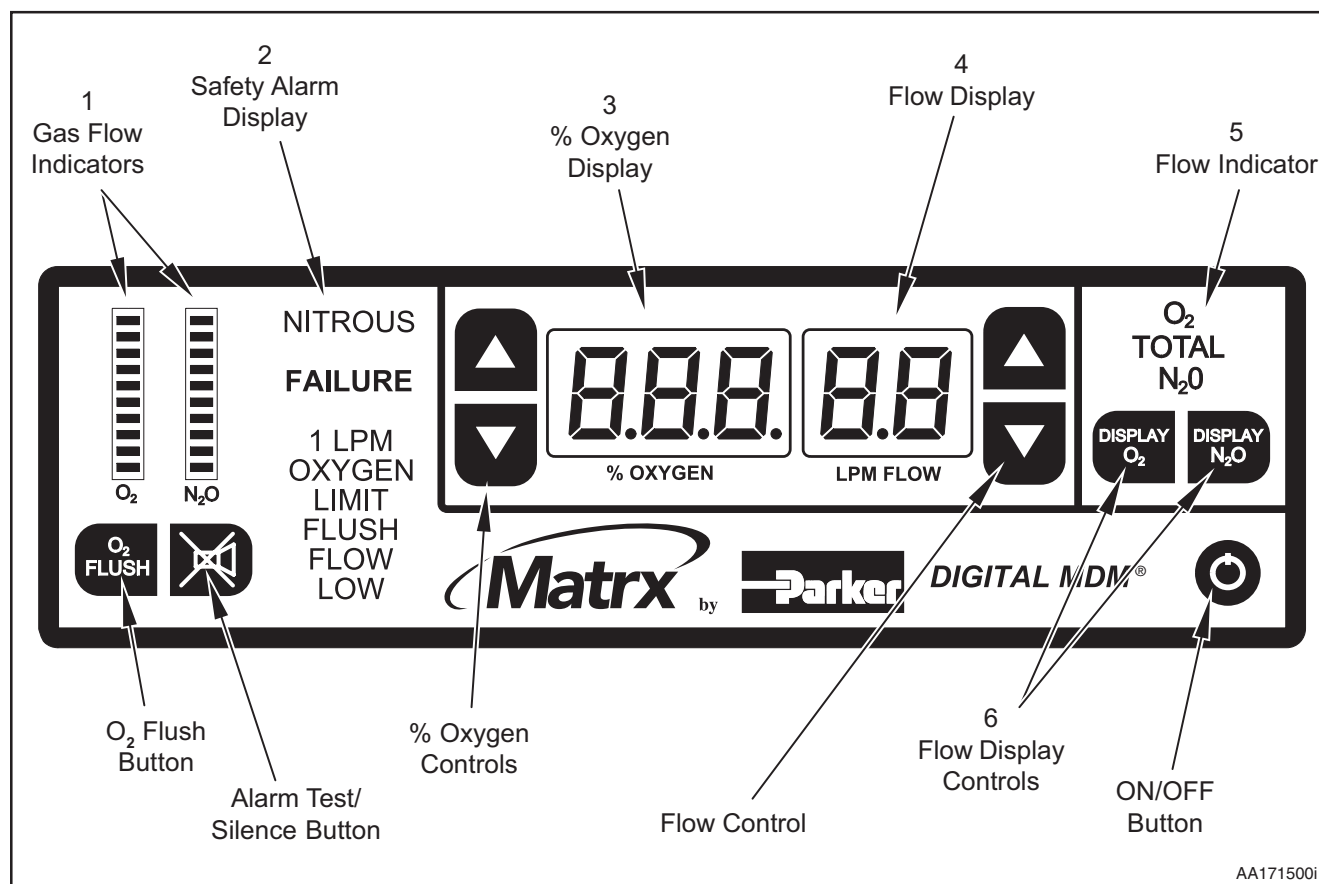

Figure 2. Matrix DIGITAL MDM® Mixer Front Panel (figure shows all LEDs illuminated)
In the following, the location numbers refer to Figure 2.
There are four alarm conditions on the DIGITAL MDM® mixer. They appear in the safety alarm display (see Figure 2, item 2) only when conditions warrant. Otherwise, they are not visible. The alarm conditions are: